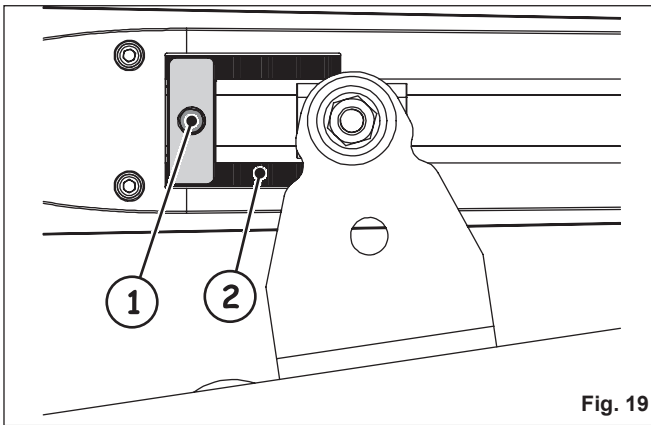

Fig. 19
3. Loosen the securing screw, Figure 19 Ref. 1. The screw does not need to be completely removed.
The mechanical stop is coupled to a toothed sector, Figure 19 Ref. 2.